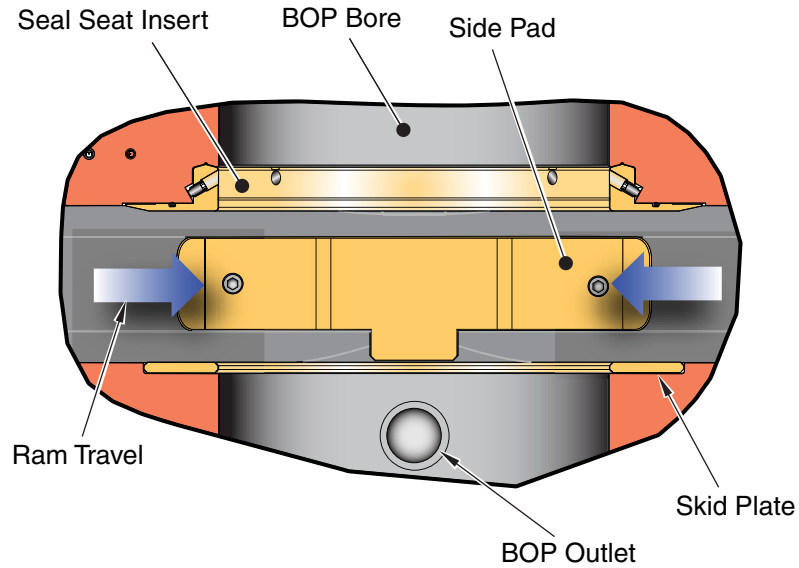

Figure 3-1. BOP Ram Cavity
- ❑ Internally, the skids in the ram compartments are below the rams, and ram sealing seats are located in the top of the ram cavity (see Figure 3-1 on page 3-3).